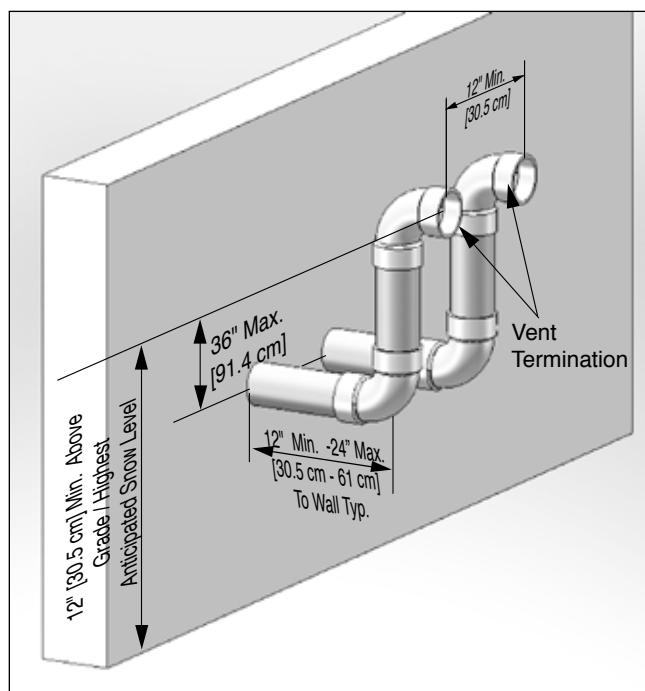

Fig. 20 - Category IV - Sidewall Termination of Multiple INSTINCT Boilers
2. Each vent termination must be a minimum 12" [30.5 cm] from the adjacent termination for installations in the U.S. as shown in *Fig. 20 below*. For installations in Canada, provide clearances as required by CAN/CSA B149.1.